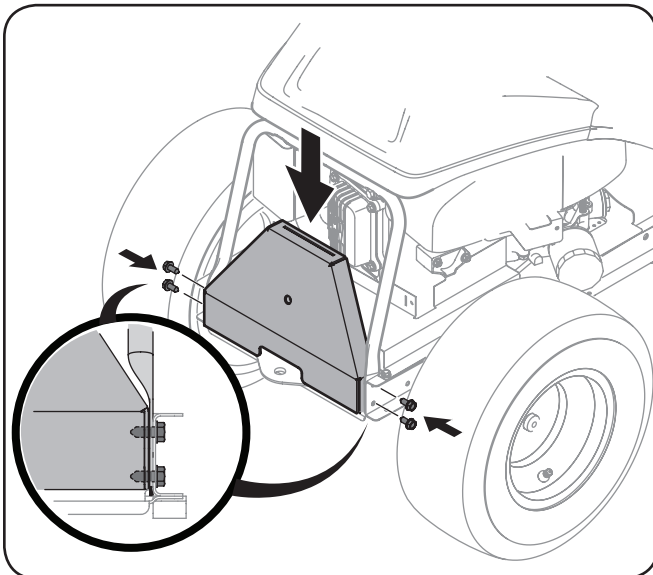

Figure 4-2
2. Install the bagger mounting bracket on the tractor, using four 710-1260A hex bolts from hardware pack 683-05147. Feed each hex bolt through the tractor frame, the rear hood mounting tube, and thread into the weld-nut on the bagger mounting bracket, as shown in Figure 4-2.